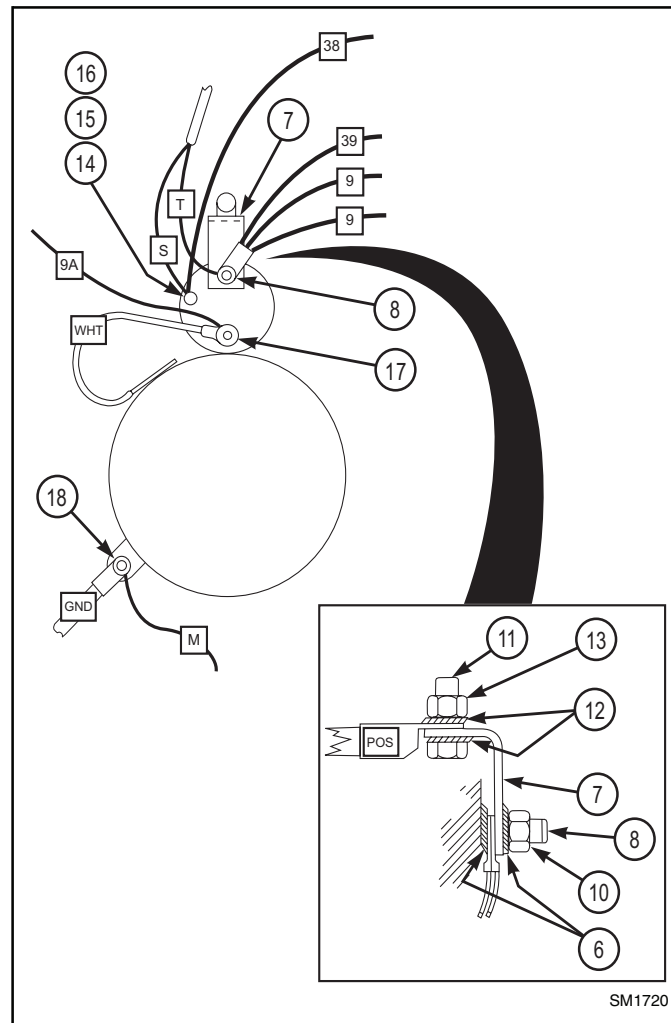

Figure 21
- d. (From the kit) install lockwasher #8310016 (6), terminal strap #6621412 (7), wires "9," "9," "T" & "39" to the starter solenoid (+) stud (8) with lockwasher #8310046 (6) and nut #8305438 (10). Tighten to 12 lb-ft. (Figure 21).
- e. Attach positive battery cable "POS" with (from the kit) screw #8303620 (11), lockwashers #8307026 (12), on terminal strap (7) and nut #8305008 (13). (Figure 21).
- f. Attach wires "38" and "S" onto the starter solenoid stud (14) with (from the kit) lockwasher #8307052 (15) and nut #8310077 (16). Tighten to 25 lb-in. (Figure 21).
- g. Attach wire "9A" and white ground cable "WHT," from the starter ground (-) stud (17). Tighten to 6 lb-ft. (Figure 21).
- b. Attach wire "M" along with the frame ground cable "GND" to the lower left starter mount capscrew (18). (Figure 21). Torque the lower left capscrew to 32 lb-ft (43,4 Nm).